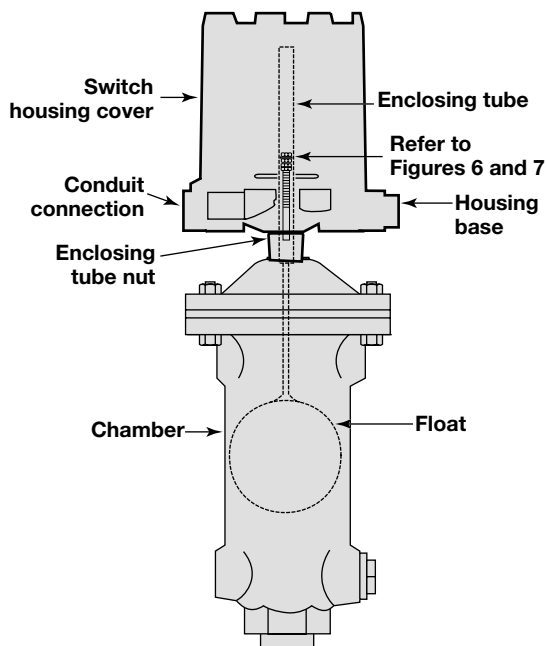

Figure 9
4. Disconnect power supply wires from switch mechanism. Pull wires out of conduit connection opening in housing base. Refer to Figure 9 on page 7.
8. Loosen enclosing tube nut with a $\frac{1}{16}$ " wrench. Unscrew enclosing tube counterclockwise (switch and housing base will rotate also), until it is free. Refer to Figure 9 on page 7.